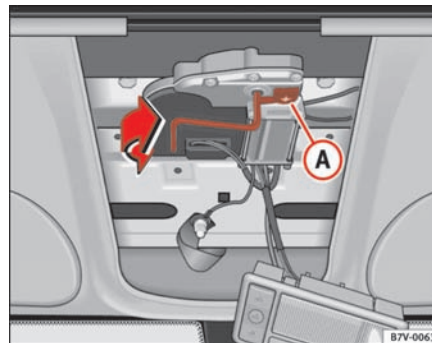

Fig. 70 Manual release
- Turn the cover A ⇒ fig. 70 of the lever opening in the direction of the arrow.
- Replace the lever in its casing and turn the cover **A** ⇒ fig. 70 over the lever opening.